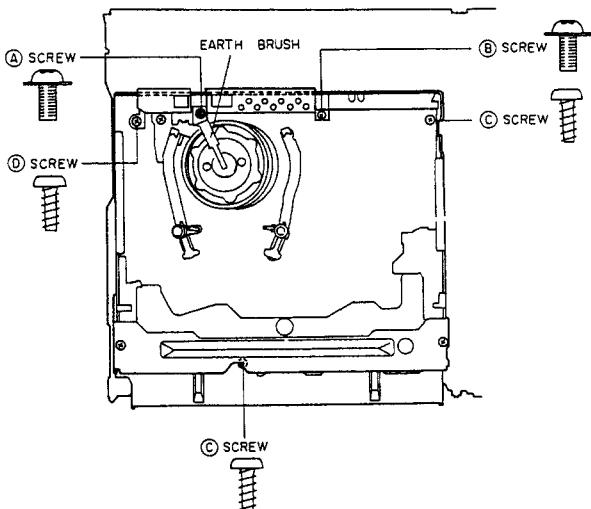

Fig. 3-24
- 1) Remove the ④ screw and remove the EARTH BRUSH as shown in Fig. 3-24.
- 3) Remove the two ④ screws from the MECHA. FRAME as shown in Fig. 3-24.